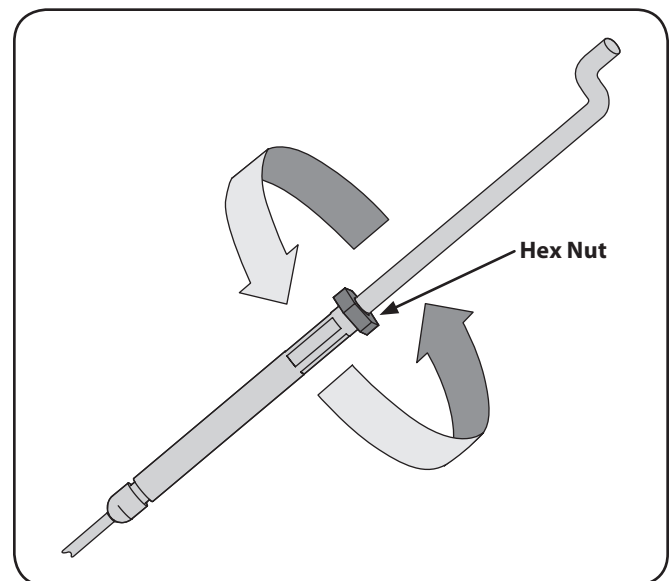

Figure 6-2
2. Adjust either the forward or reverse clutch cable by loosening the hex nut. See Fig. 6-2.